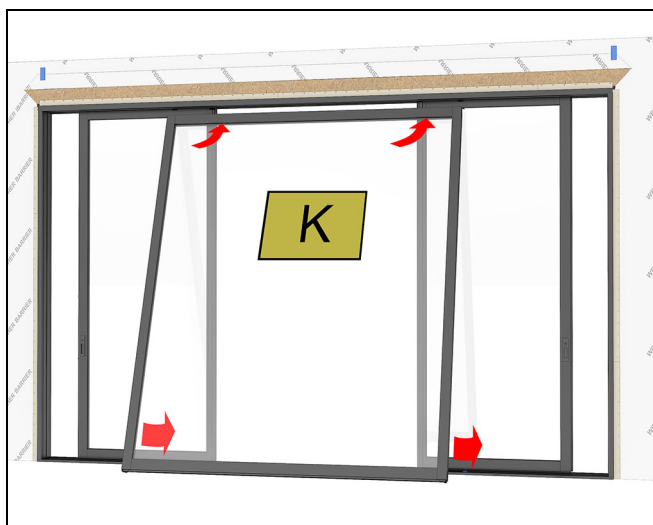
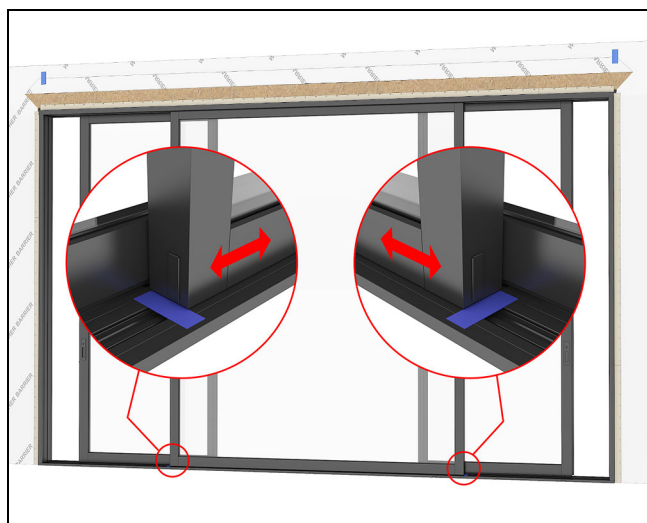

Figure 150 XOX shown with K panel
Figure 151
5. Install the (K) stationary panel. Line up the left outside edge of the panel with the left mark made on the sill earlier in step 3 on page 48. See Figure 150 and Figure 151.